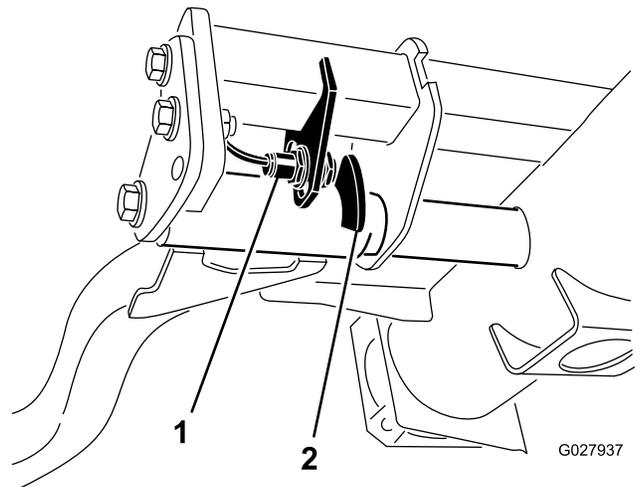

Figure 54
2. The lift-arm switch is located underneath the hydraulic tank behind the front, right lift arm (Figure 54).
3. Loosen the switch-mounting screws and move the switch down to increase the lift-arm turnaround height or move the switch up to decrease the lift-arm turnaround height (Figure 54).